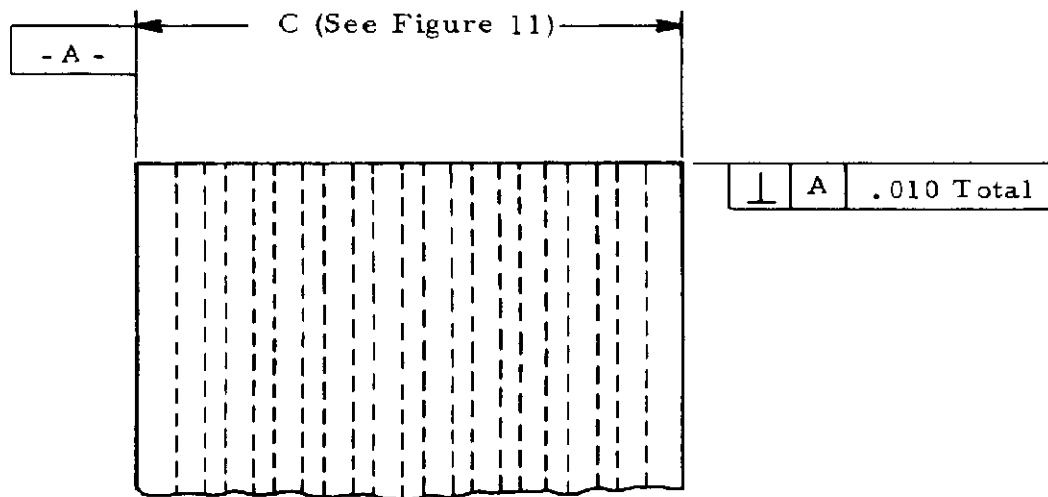

Figure 2
- (1) End of the cable or circuitry shall be prepared as indicated in Figure 2.